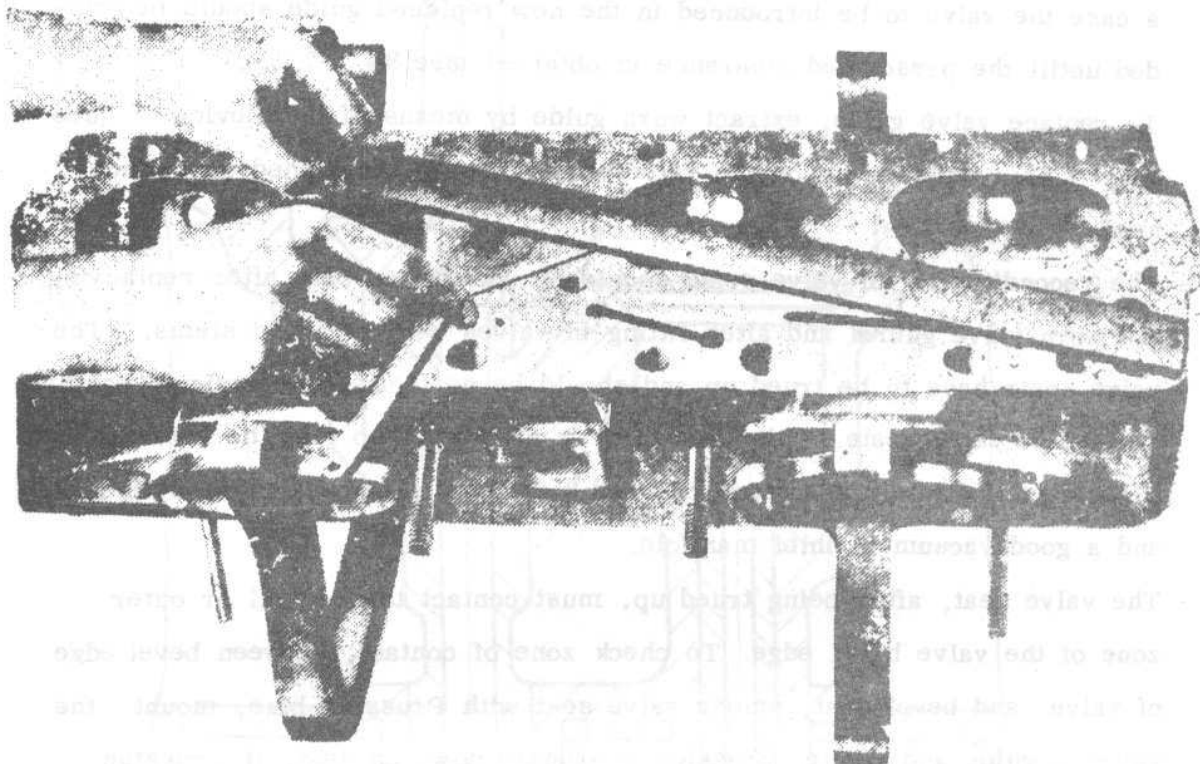

Fig. 4, 54. CHECKING FLATNESS OF CYLINDER HEAD
- Check flatness of cylinder head mounting surface (see Fig. 4. 54).
(see Fig. 4. 17).